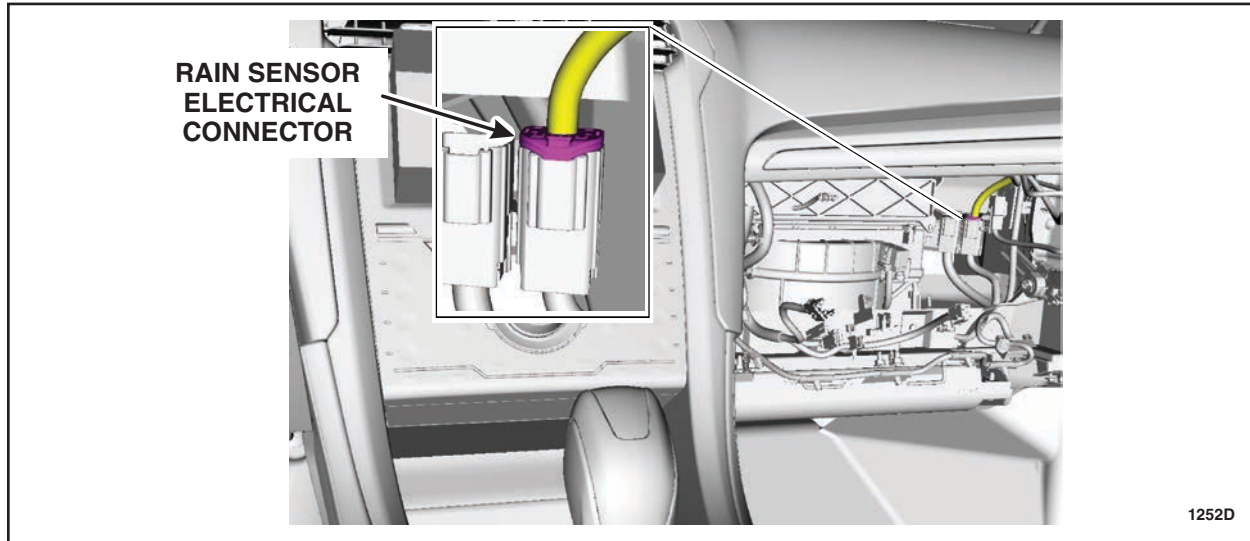

FIGURE 3
3. Disconnect the rain sensor and/or auto dimming mirror electrical connectors. See Figure 3.